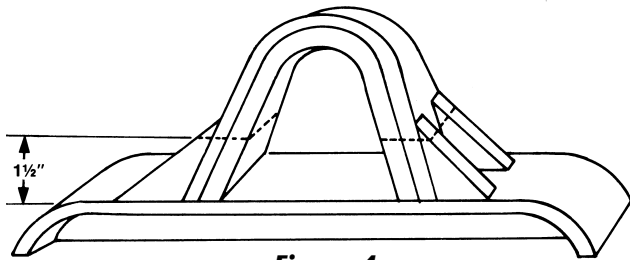

Figure 4
1. Clean and mark the existing bracket caps $1\frac{1}{2}$ " above the base, as shown in *Figure 4*.